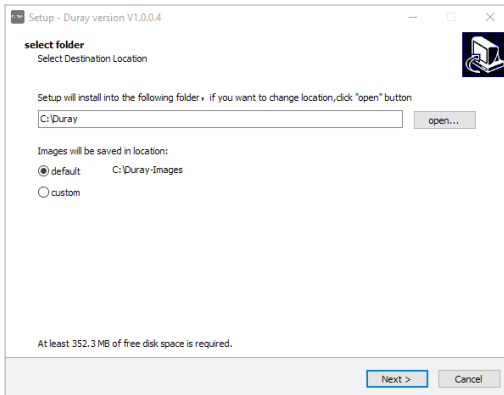

Figure 3
b) After the installation program starts, click the “Browse” button to select the installation path. After the path is selected, click the “Next” button, as shown in Figure 3: